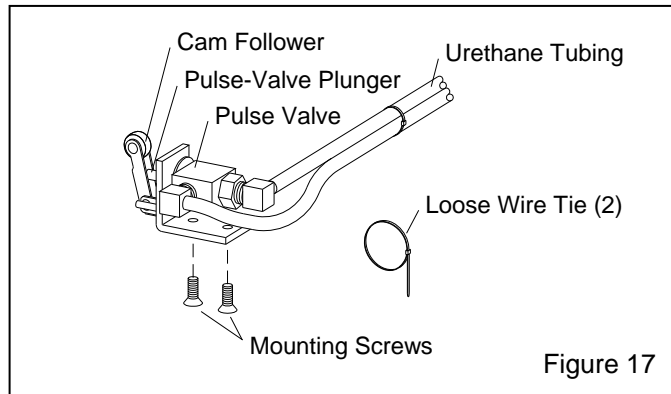

Figure 17
**4.3.2** Components of the assembled kit are shown in Figure 17.